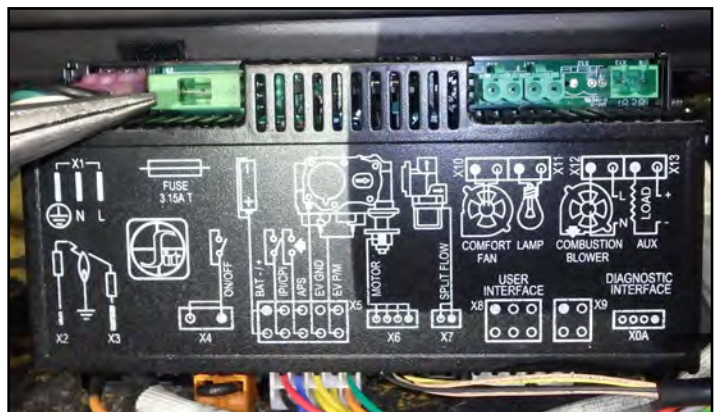

Figure 18.7.01:
6. Remove the fuse holder shown in **Figure 18.7.01**.